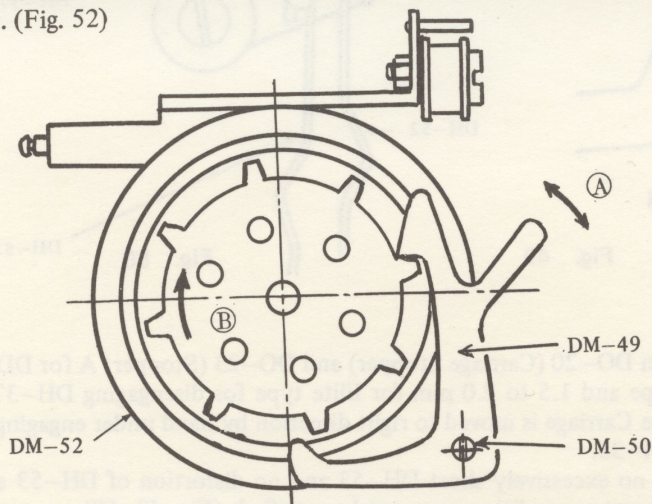

Fig. 53
However in some cases Carriage may be heavy due to maladjustment of the above paragraph (7). (Fig. 53)